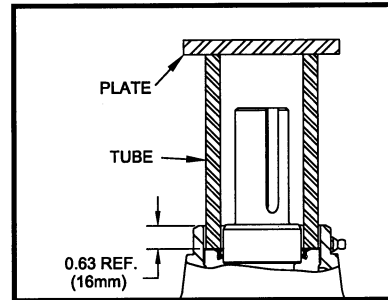

Figure 6.2.3.4 Final Installation of Inboard Seal
10. Carefully place the outboard seal over the shaft, garter spring side up. **Reference Figure 6.2.3.5.**